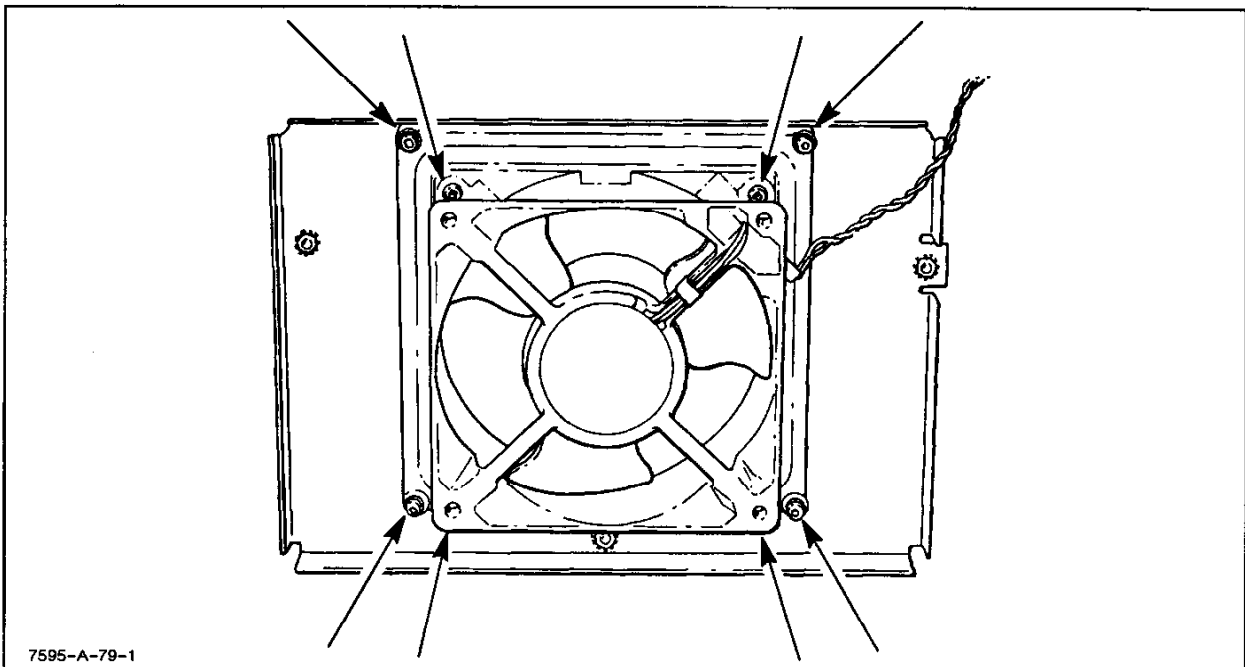

Figure 6-44. Fan Assembly Removal
- d. Disconnect the fan wires. See Figure 6-44.